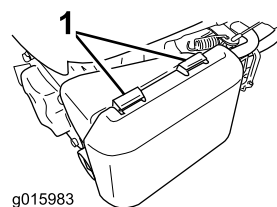

Figure 24
1. Press down on the latch tabs on top of the air-cleaner cover (Figure 24).